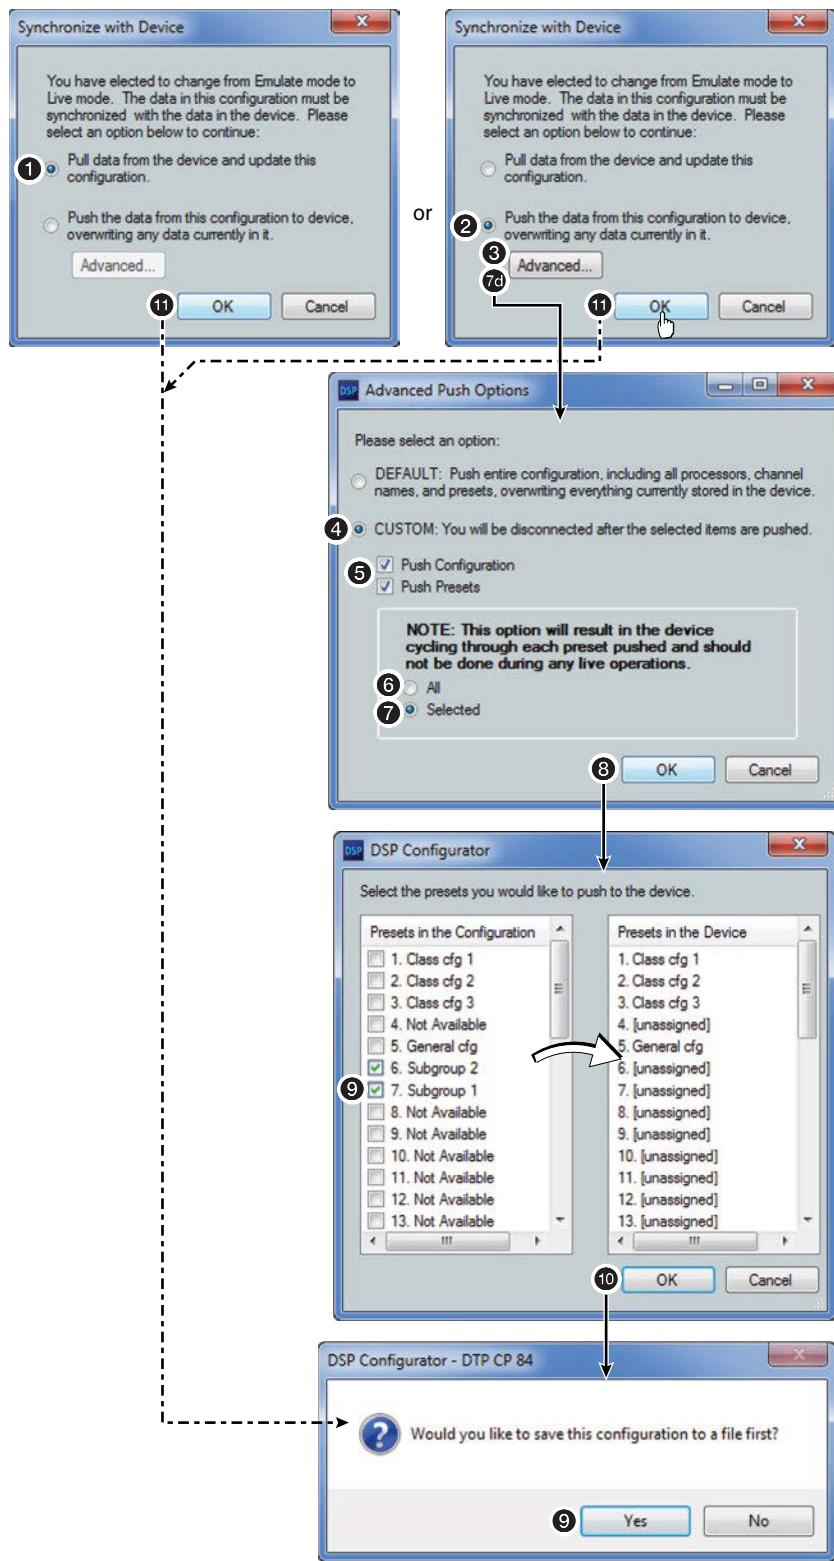

Figure 60. Selecting Live Mode, Continued
The Synchronize with Device dialog box (see figure 60 on page 109) appears. Proceed to step 6.
- **Pull** radio button (figure 60, 1) (to configure the DSP Configurator program to match the switcher — proceed to step 8)
- If you want to tailor the push to the switcher (push just the configuration, just the presets, or the configuration and selected presets), click the **Advanced** button (see **figure 60**, ③ on page 109) and proceed to step 7a.